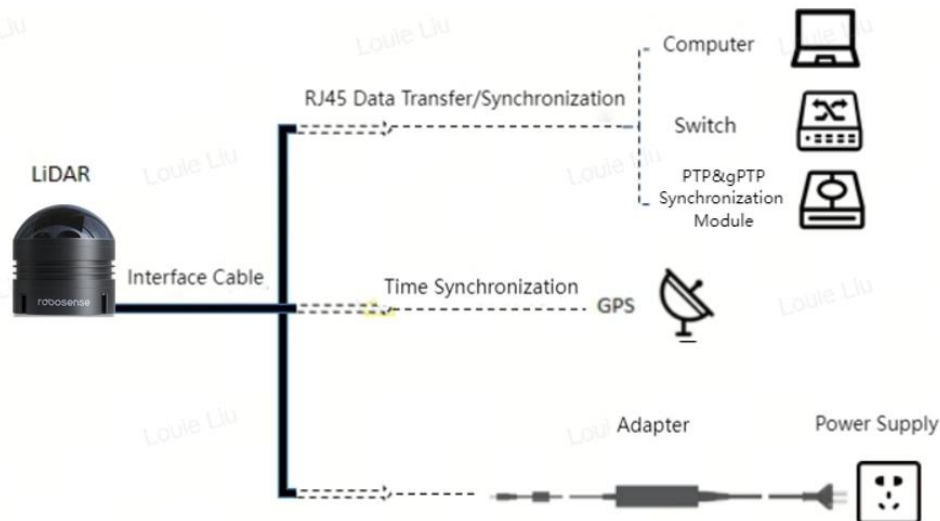

Figure 11 Interface Cable Connection Diagram
The connection method is shown in Figure 11 .
- 1) The time synchronization module (PTP & gPTP, GPS time synchronization module) is not included as a standard product. If you need to use these features, please purchase them separately and follow the connection method shown in Figure 11 .